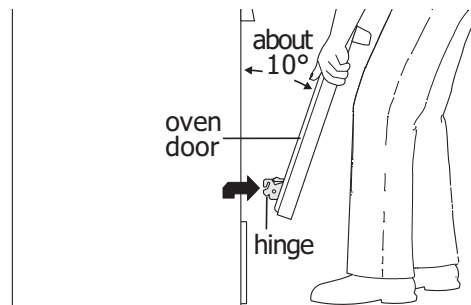
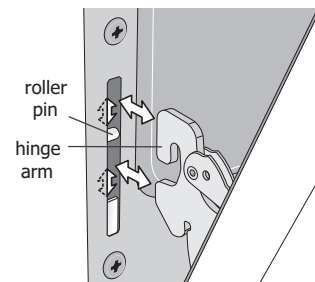

Figure 19: Holding door for removal
Figure 20: Replacement and location of hinge arm and roller pin
3. Firmly grasp both sides of oven door along the door sides. Do not use the oven door handle (See Figure 19).
4. Close the door to approximately 10 degrees from the door frame (See Figure 19).
5. Lift the oven door hinge arms over the roller pins located on each side of the oven frame (See Figure 20).
1. Firmly grasp both sides of oven door along the door sides. Do not use the oven door handle (See Figure 19).
2. Holding the oven door at the same angle as the removal position, seat the hook of the hinge arm over the roller pins located on each side of the oven door frame (See Figure 19 and Figure 20). The hook of the hinge arms must be fully seated onto the roller pins.